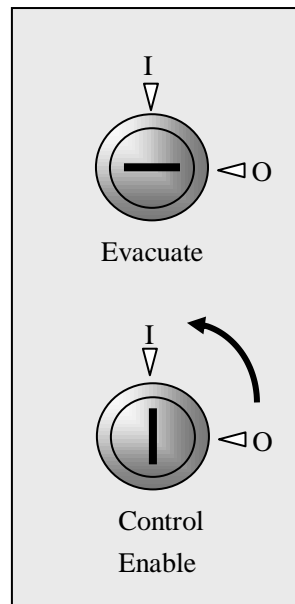

Fig. 3.6.1b
- ✧ As in Fig.3.6.1b, when “Control Enable” lock points to “I”, the panel is at level 2, the panel can self-test and reset, and sounders can be silenced.